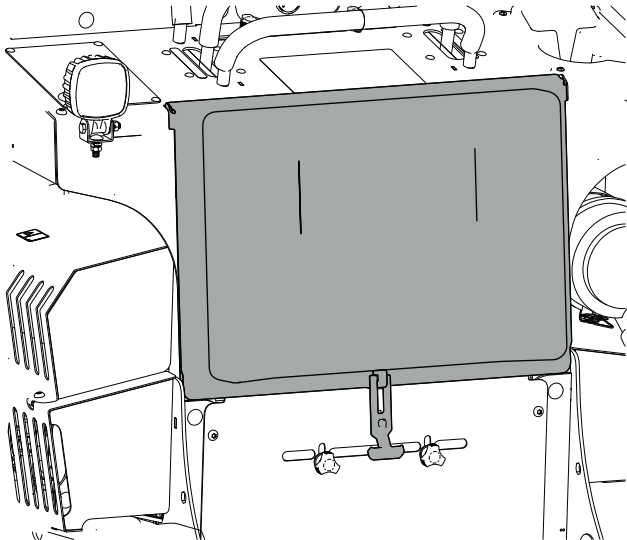

Figure 42
1. Remove the pad from the operator platform (Figure 42).